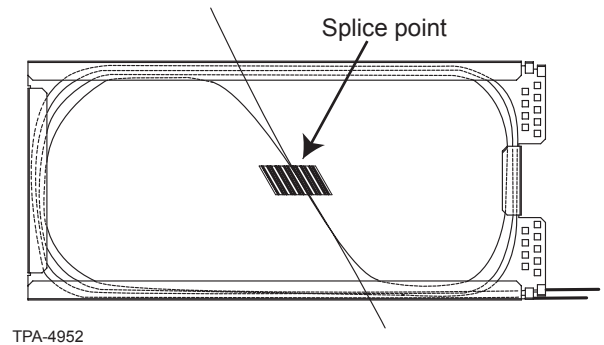

Figure 10
- a. Determine the splice point (Figure 10). Allow another 2.5 cm (1 in) of ribbon for stripping and cleaving, cut the ribbon and place it into the left holding fixture on the mass fusion splicer with 2.5 cm (1 in) exposed.
- b. Loop the other ribbon one-half loop and bring it to the same splice organizer slot from below (Figure 10).